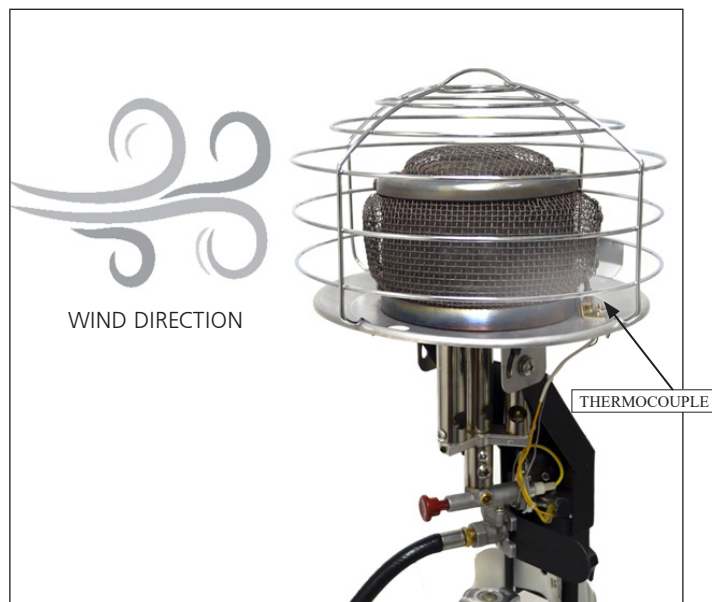

Figure 4
- K.** For optimal performance position the heater so the thermocouple is opposite of the prevailing wind direction. Figure 4